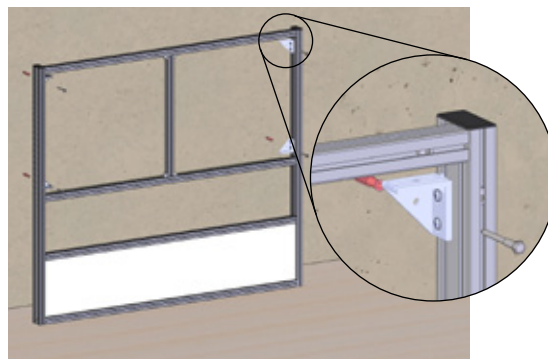

Fig. 3.2-12
Step ⑩ The brackets **A2f** are now also attached to the top guide grooves on the insides of the side stands (**Fig. 3.2-12**). To do this, please use 2 M8x20 **Verbus-Ripp screws** per bracket and tighten these firmly (approx. 25 Nm).